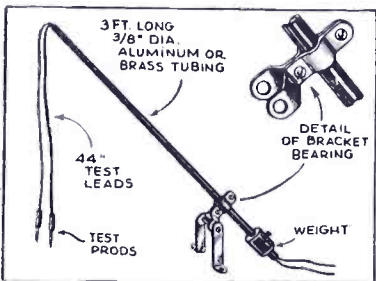

Fig. 3
**K**EEPING TEST LEADS HANDY. Keeping test leads handy on the service bench is always a problem. At our shop we have used the arrangement shown in Fig. 3 successfully and it has saved a great amount of time.